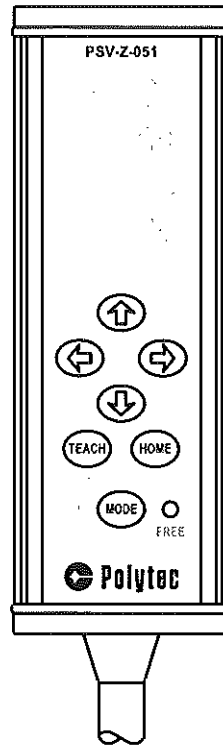

Figure 5.4: Defining alignment points using the hand set PSV-Z-051
Hand set PSV-Z-051	<p>The hand set PSV-Z-051 is connected to the circular jack REMOTE CONTROL on the front of the scanning head. You can define and delete individual alignment points using the emphasized part of the hand set shown in FIGURE 5.4. To do so, proceed as follows:</p> <ol style="list-style-type: none"> 1. Switch on the PSV (at least the PC) and start the PSV software. 2. 2D alignment: Change to the Acquisition Mode and select Setup > 2D Alignment as described in your software manual. 3D alignment: Change to the Acquisition Mode, then select Setup > Align 3D Coordinates and select Set new alignment point at laser spot as well as unit (m or mm) as described in your software manual. 3. to define alignment points, change to the FREE mode by pressing the MODE key on the hand set (LED FREE is lit up).
1. Change the FREE mode by pressing the MODE key on the hand set (LED FREE is lit up, refer to FIGURE 5.4).